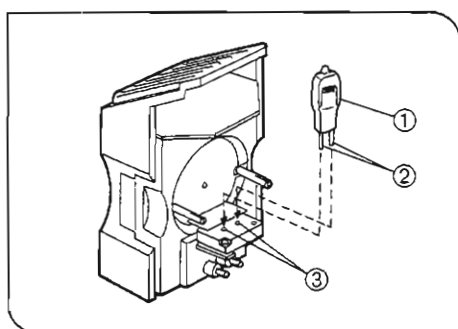

Fig. 5
2 Installing the Lamp Socket (Figs. 5 & 6)
1. Hold the bulb ① with gauze or other protective material and insert the bulb pins ② straight into the lamp socket's pin holes ③ as far as they will go. (Fig. 5)